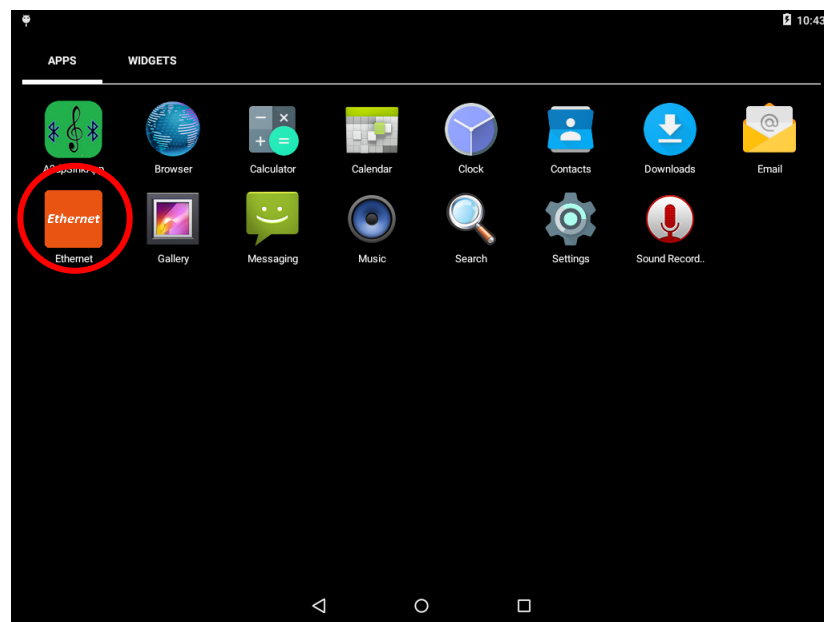
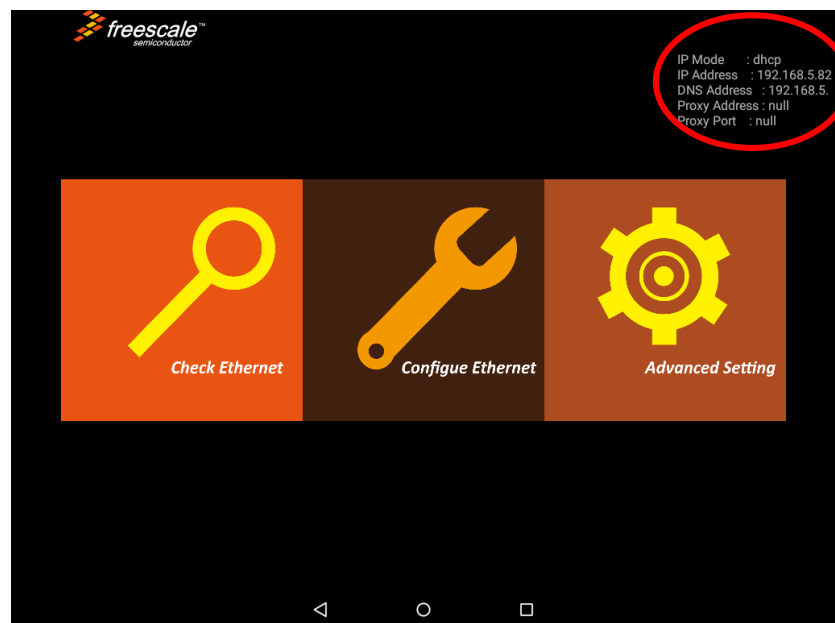

Figure 17 - Android Apps
Figure 18 - Ethernet App with IP address
2. Retrieve the IP address, for example, by using the pre-installed “Ethernet App”, see Figure 17 and Figure 18.